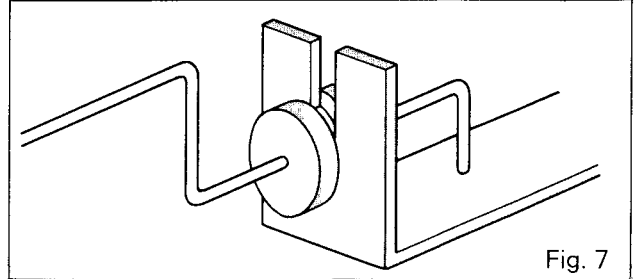

Fig. 7
- (12) Remove the reject spring spacer (Fig. 7)
- (13) Remove the suspension spring and cushion rubber.
- (14) Hold the turntable shaft and lift, and remove the sub-chassis.